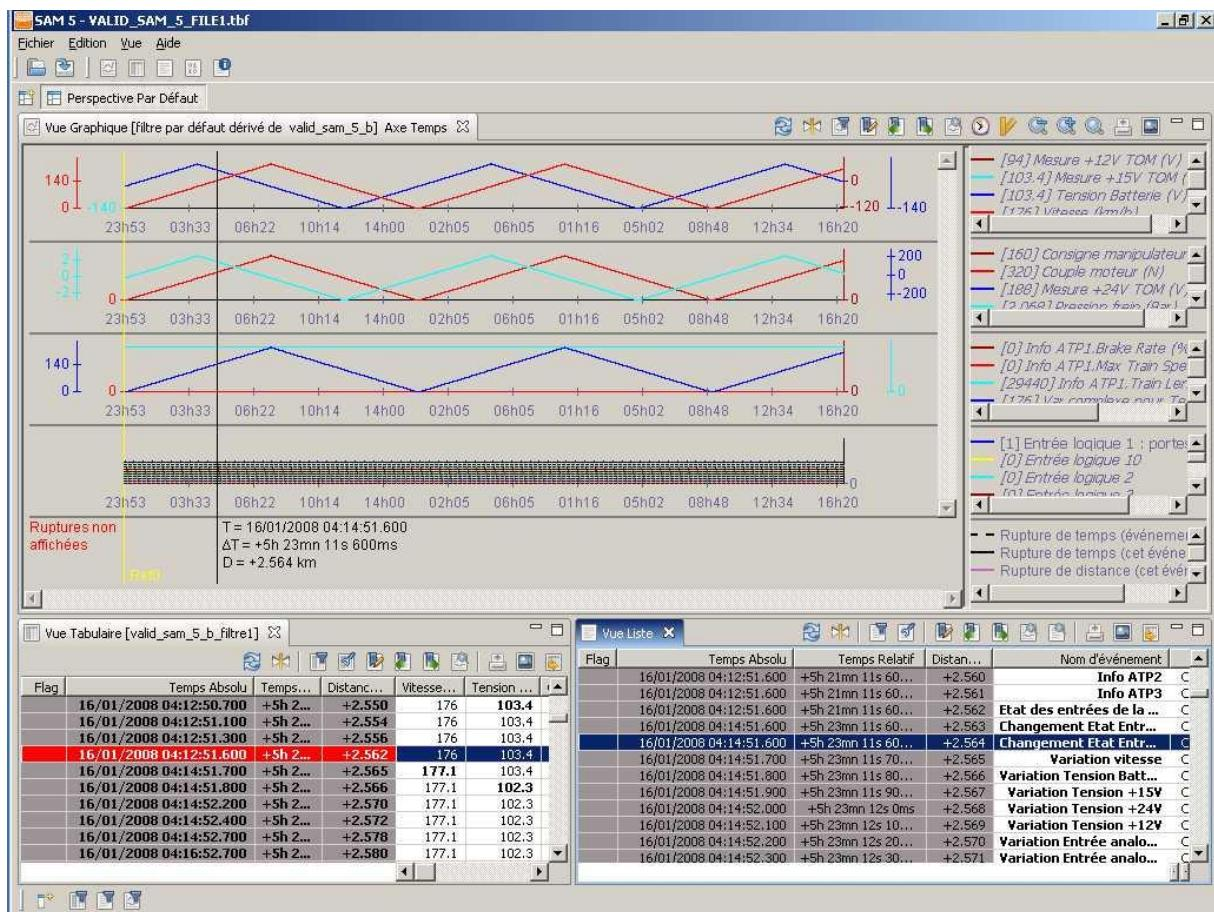

Figure 14
**Figure 14** shows the graphic, list and tabular views all synchronized.